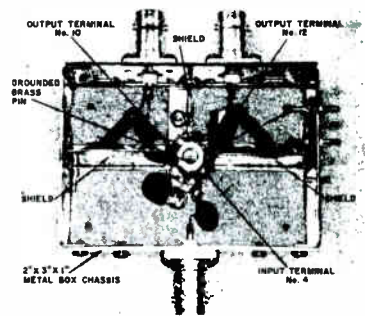

Fig. 6 - Test Circuit Layout
Stable high-frequency operation requires that proper high-frequency construction techniques be followed. The photograph of Fig.6 illustrates the precautions taken in the construction of the test circuit of Fig.3.
1. Use sockets only when necessary. Sockets, when used, must provide shielding within the pin circle. The socket shown in the chassis of Fig.6 is a Barnes MC-1201, or equivalent, modified by drilling a 1/8" hole in the center and inserting a grounded brass pin.